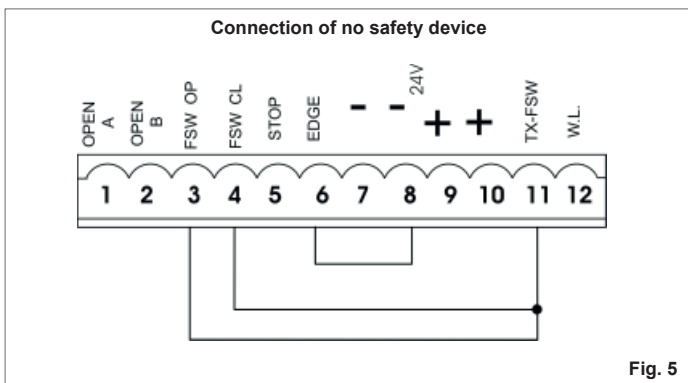

Fig. 5
👉 If safety devices are not used, jumper connect the terminals as shown in fig. 5.
**If no opening safety devices are connected, jumper connect inputs OP and -TX FSW (fig. 5).**
**If no closing safety devices are connected, jumper connect terminals CL and -TX FSW (fig. 5).**
**If edge safety devices are not connected, jumper connect the EDGE and - inputs. (fig. 5).**